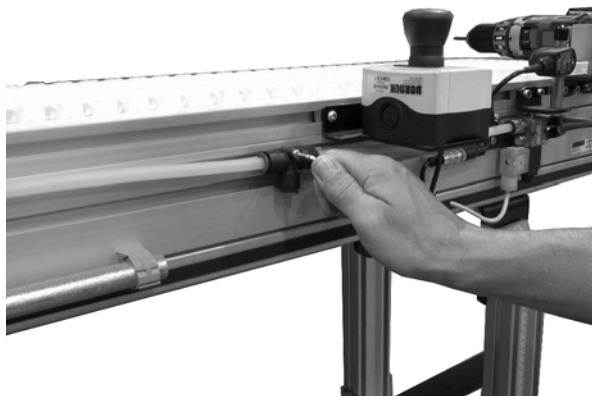

Figure 29
4. Confirm that the fastener is snug by hand tightening (**Figure 29**). Do not exceed 50 in.lb (6 Nm).